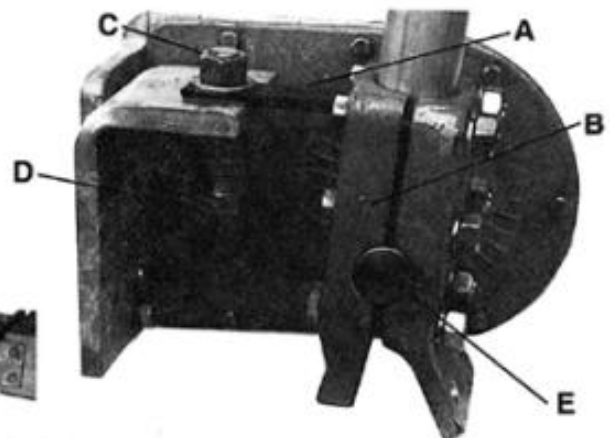
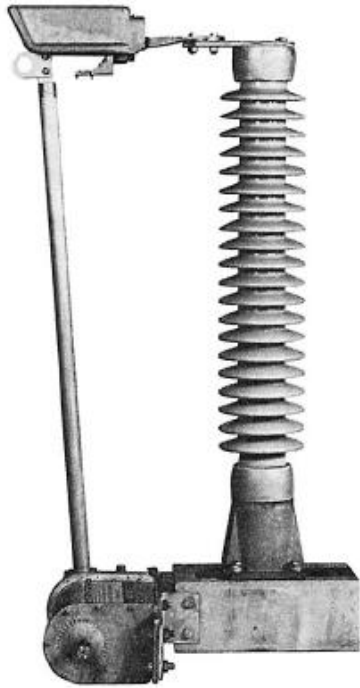

Fig. 3. Position of external blade stop as shipped.
Fig. 4 Actuating mechanism assembly mounted in place.
The second component of the HSG switch that is shipped as a separate assembly is the actuating mechanism (A) fitted with the switch blade (B) and the reset crank (C), Fig. 2. (The reset crank is not supplied with hook-stick reset switches.) The blade and crank are mounted in the correct position and match marked (E in Fig. 3) at the factory and do not require any further adjustment in the field. Although the complete assembly is shipped in the unlatched position, the main springs of the actuating mechanism are partially wound and store a considerable torque. This torque
is retained by the blade stop, (A in Fig. 3) against which the switch blade clamp (B) resets. Lift the complete actuating mechanism assembly (actuating mechanism, switch blade and reset crank) into position and bolt to the supporting structure as shown in Fig. 4.
Loosen the blade stop nut (C in Fig. 3.) and push the switch blade so that the blade contact bar is fully engaged with the switch jaw. Check to see that the blade stop (A) is firmly against the switch blade clamp (B) and retighten the blade stop nut. Do not turn blade stop bolt (D) during this adjustment.
If the blade rebounds clear of the jaw, rotate the blade stop (A in Fig. 3) clear of blade clamp (B). For procedure, refer to Step 2
With the switch blade in the normally open position and the actuating mechanism latched, block the latch with a screwdriver as shown in Fig. 11. Loosen the bolts of the switch blade clamp. Remove the old blade and insert the new blade, making sure that the blade contact bar is parallel to the switch jaw contacts. Also check to be sure that the match marks on the switch blade clamp and actuating mechanism shaft line up exactly (E in Fig. 3) before tightening the bolts of the switch blade clamp. Unblock the latch.